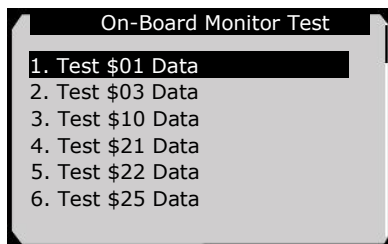

Figure 6.28
- 5) From **On-Board Monitor Test** menu, use the **UP/DOWN** scroll button to select a test to view and press the **OK** button. (Figure 6.28)